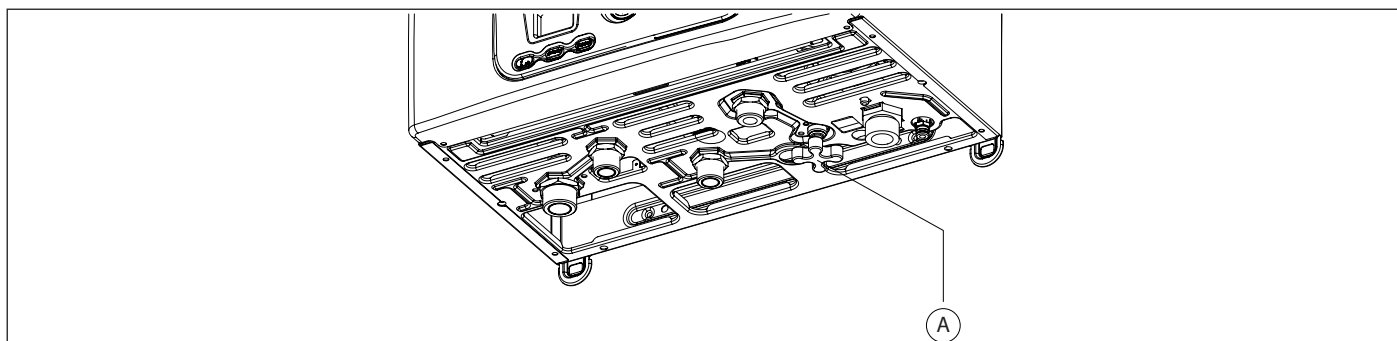

Fig. 2 Filler cock
Fill the system by working on filler cock (A) (see Fig. 2 Filler cock).